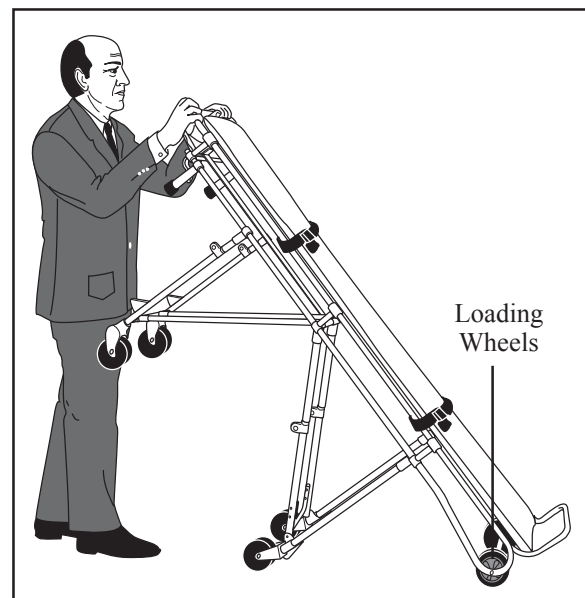

Figure 5 - Preparing to Lower the Cot
1. Raise the operator end of the cot until the loading wheels are on the ground (Figure 5).